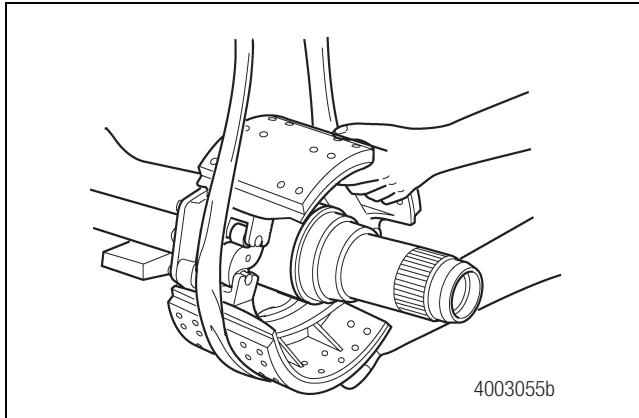

Figure 9.5
- 8. Support the brake assembly with a suitable lifting device. Figure 9.5.